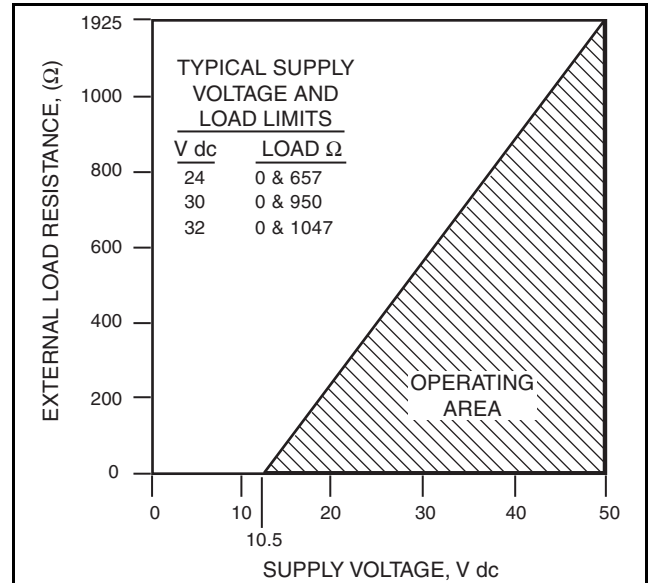

Figure 2. Supply Voltage vs. Load Resistance
- (c) The loop load can vary as listed, depending on the supply voltage used. See Figure 2 for a plot of supply voltage vs. loop load.
4 to 20 mA dc into a maximum of 1925 Ω depending on power supply. See Figure 2.
Supply Voltage Limits: See Figure 2.